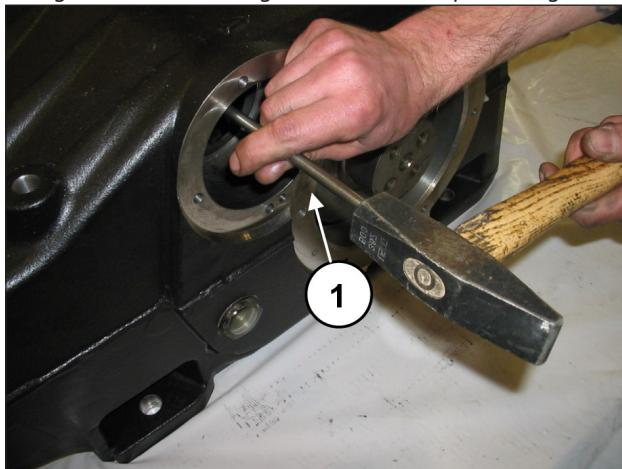
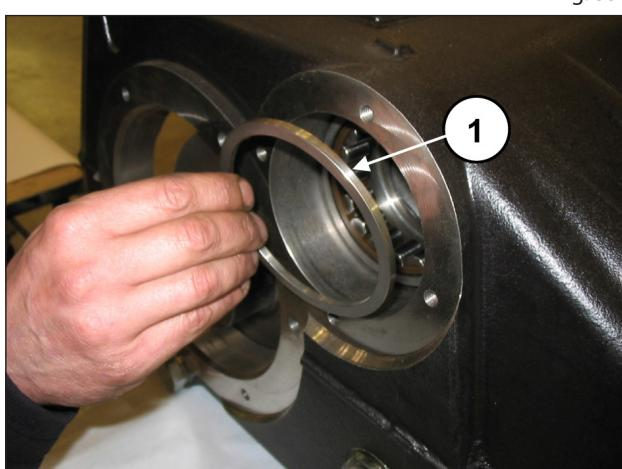

Fig. 34
Fig. 36
Using a sufficiently long bar (pos. ①, Fig. 34) and an extractor hammer, take the bearing rings out of the pump casing (pos. ①, Fig. 35), along with the external bearing spacer (pos. ①, Fig. 36) and the bearing lubrication bush (pos. ①, Fig. 37).